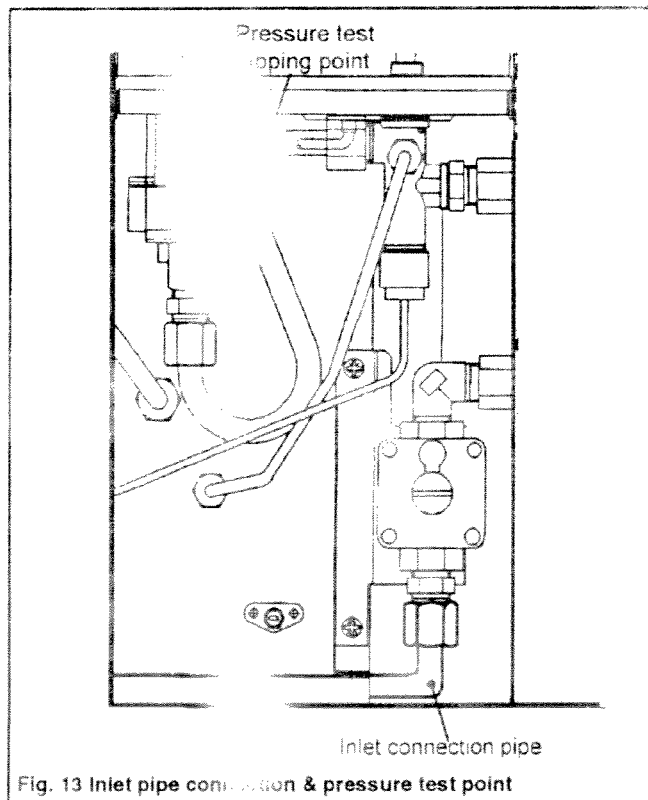

Fig. 13 Inlet pipe connection & pressure test point
- 11.4 Couple the gas inlet pipe to the connector below the regulator (see figure 13).
- 12.3 The burner manifold pressure is controlled by a built-in non-adjustable regulator. The correct pressure range is shown in the table in section 2 of this manual. The manifold pressure should be checked at the pressure test point which is located on the thermostat unit (see figure 13). The pressure check should be made with the appliance burning, the gas control set at "On" and the thermostat control set at "Full". (Temporarily refit the control knobs for checking).